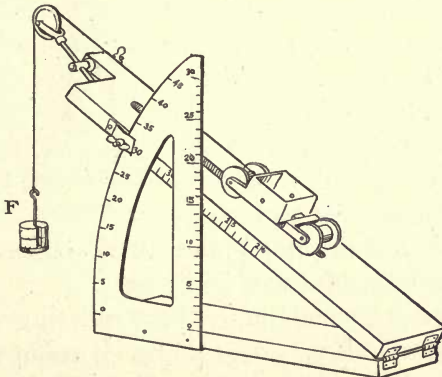

FIG. 57. — Inclined Plane and Truck.
**The Inclined Plane.** — Arrange a board as shown in Figure 57, so that it makes an angle of 20 or 30 degrees with the table.